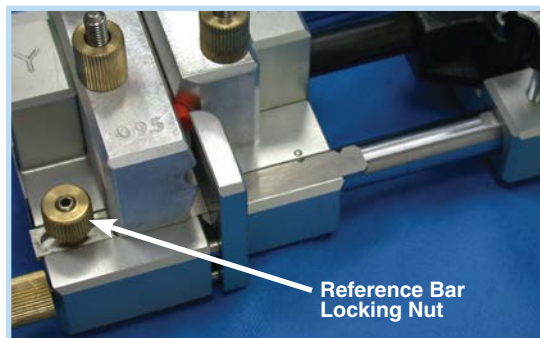

Fig. 28
- A. With one end of the Profile mounted in the movable (X) die, move the lever forward until it reaches the fully forward position when you will feel a noticeable locking action.
- B. The Setup Mark should be aligned with the Reference Mark. If it is not, loosen the Reference Bar Locking Nut (Fig. 28) and adjust the Reference Bar until the Setup Mark is opposite the Reference Mark. Tighten the Reference Bar Locking Nut.